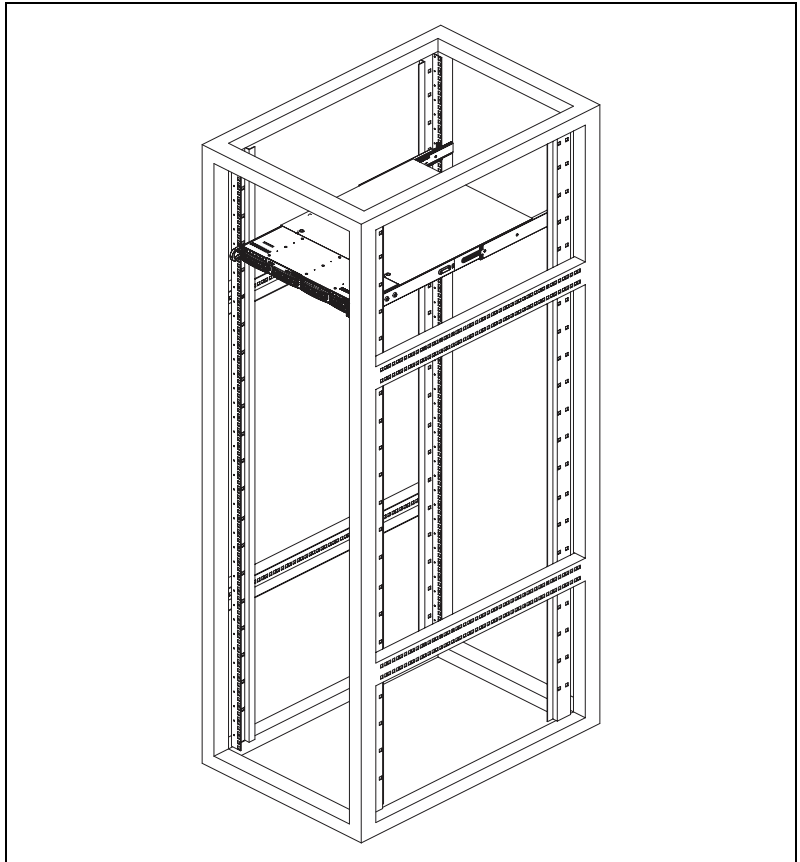

Figure 2-5. Installing Chassis Into Rack
2. Push the chassis all the way to the back of the outer slide assemblies, as shown in Figure 2-5. (The plastic bezel is not included in the kit.)